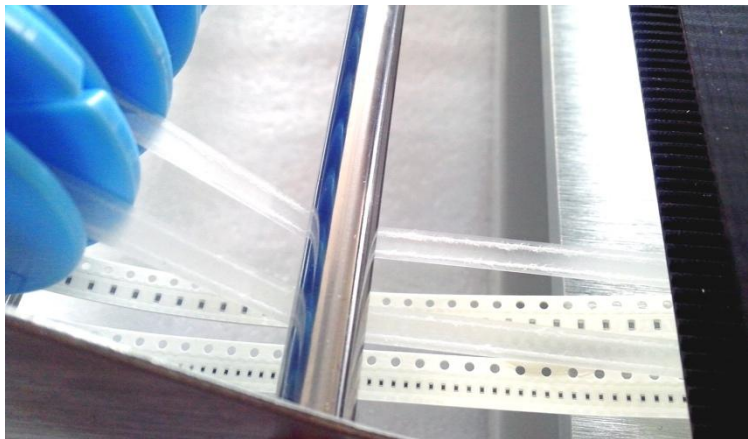

Figure 16.2. Image of film cover threaded to belt receiving wheel.
- v. Manually align the round hole of the tape to the edge of the batten, as shown as red hole and blue line in Fig. 16.2.
- (2) **Fixed IC tray:** Feeders 60-74 are used to load individual parts, typically ICs, from fixed trays located at the front of the machine. Numbering starts at the front-left and continues to the right and then back, and then to the rightmost two trays. For position and angular alignment, parts are typically set at the back-left edge of a tray. Pick-offset parameters in the “Run /Edit / Feeder tab / Calibrate” then